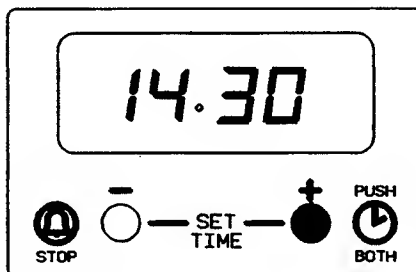

Fig. 6.3
Within 5 seconds, press and hold either button (1) to decrease or button (2) to increase the time until the correct time of day on the 24 hour clock is reached, e.g. 14:30. The cooking symbol (  ) will go out. See Fig. 6.3.